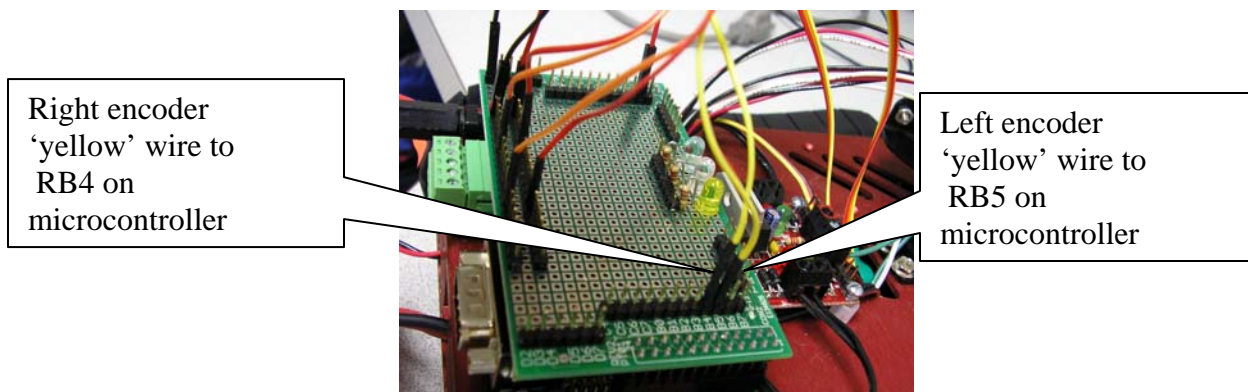

Figure 3: Encoder to Microcontroller Connection
- v. Connect the ‘yellow’ wire from the right encoder to RB4 on the microcontroller. Connect the ‘yellow’ wire from the left encoder to RB5 on the microcontroller (see Figure 3).